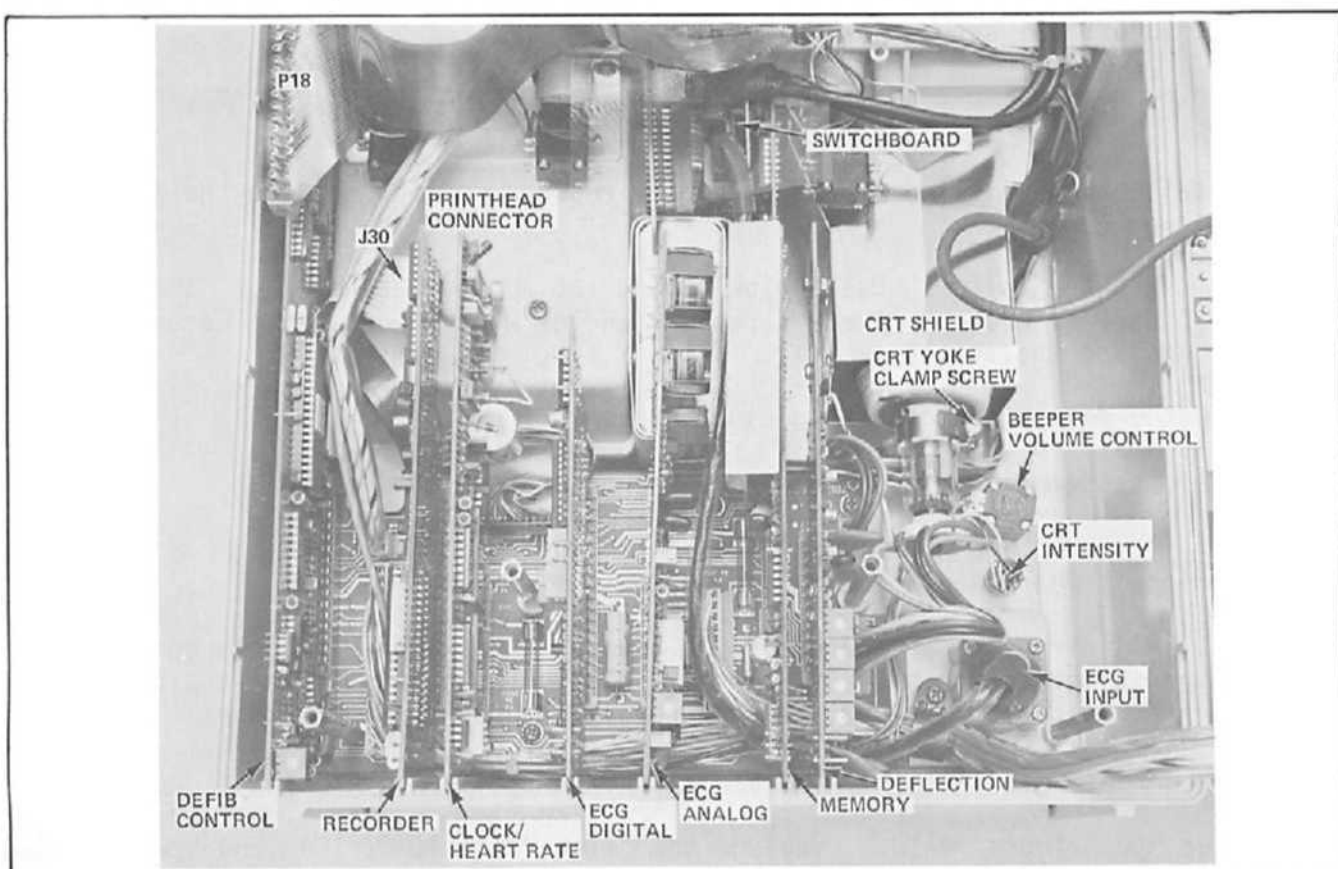

Figure 4-10.
1. Refer to Figure 4-10. Unplug the flex circuit (P18) and remove the defibrillator control board.
2. Remove the memory and deflection boards, Figure 4-10.